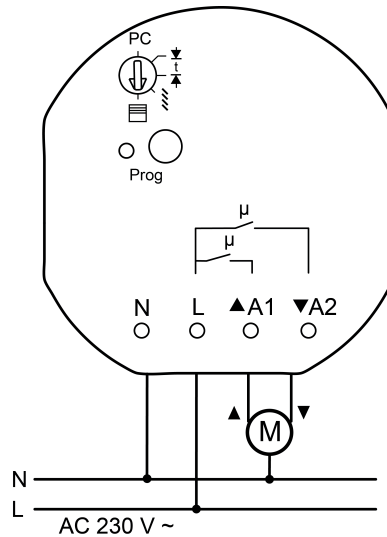

Figure 2: Connection example
- Connect load as shown in the connection example (Figure 2).